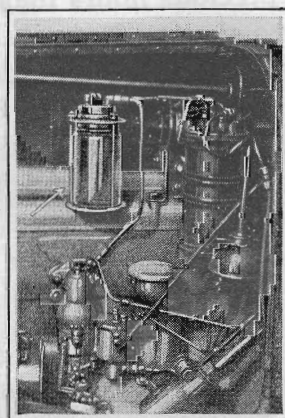

Fig. 5. This simple device for feeding water vapor into the cylinders to cut down carbon deposit works automatically
**T**HE injection of air heavily laden with water vapor into the manifold of a gasoline engine helps to keep down carbon deposits and, according to some motorists, actually gives the motor more power. In Fig. 5 is shown a simple way to make a device for feeding water vapor into the cylinder at regular intervals, requiring no attention on the part of the driver.